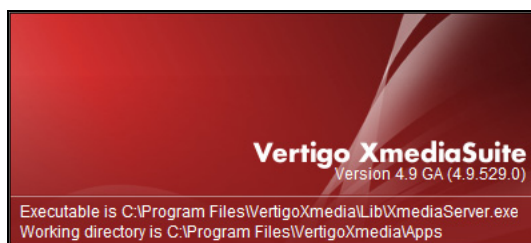

Figure 4-2. Xmedia Server product information on the Xmedia Server Control Panel's General page
The Xmedia Server Control Panel's **GENERAL** page provides a quick view of the Xmedia Server's product information (figure 4-2). This page displays the following three (3) pieces of information regarding the Xmedia Server:
The Xmedia Server Control Panel's **GENERAL** page (figure 4-2) features two sections that allow you to specify and view the Xmedia Server's communication port and the full directory paths where the XMS stores or retrieves information from. The following table provides more details about each field in these sections: